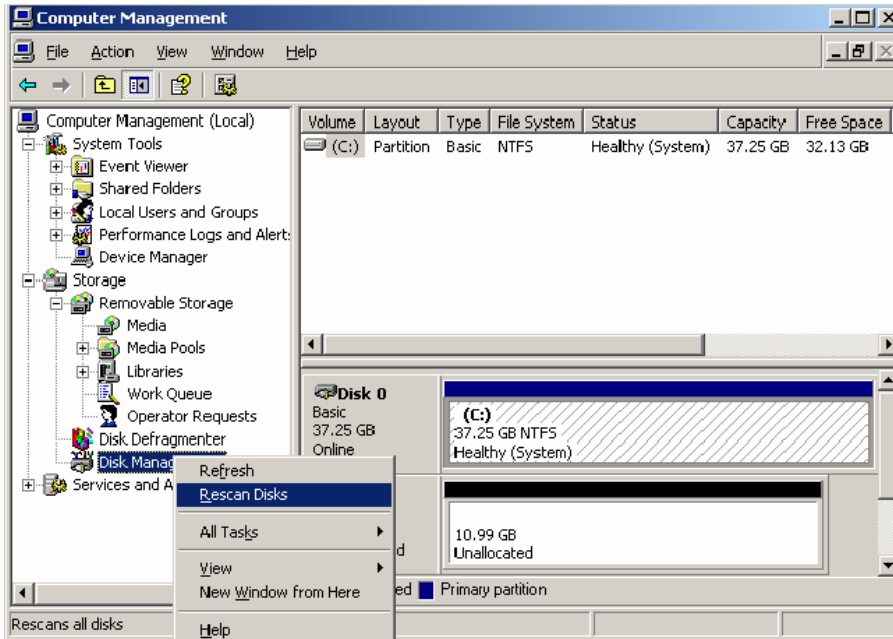

Figure 5-82 Discovering the logical drives
4. Take the necessary steps within the blade server OS to discover and format the logical drives. Figure 5-82 on page 145 shows an example of a Windows 2003 server blade.